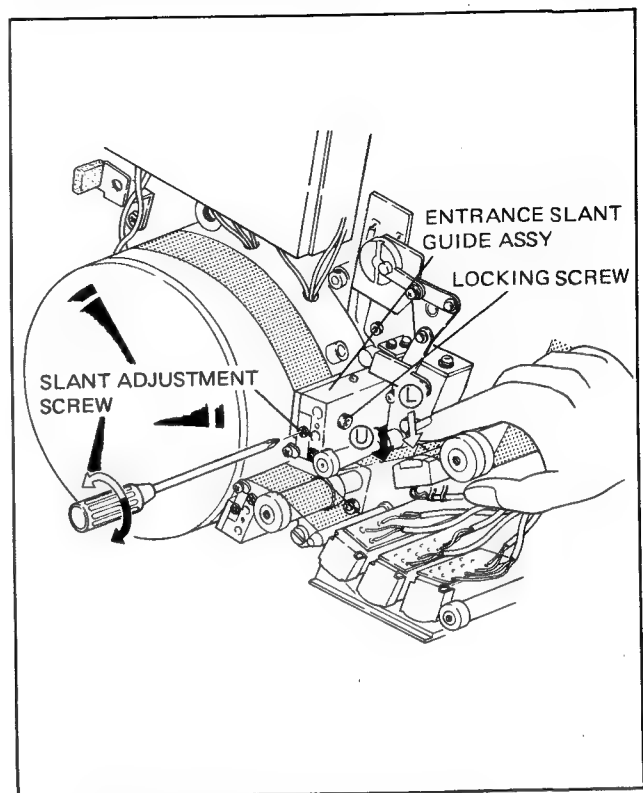

Fig. 10-14-2. Slant Adjustment of Entrance Slant Guide
- a By pushing **U** or **L** point of the running tape lightly as shown in Fig. 10-14-2, find out the side whose RF waveform is similar to (a) of Fig. 10-14-1.
12. Lightly push **U** or **L** side of the tape shown in Fig. 10-14-2 and find out the side whose RF waveform on the tape entrance side becomes flat.